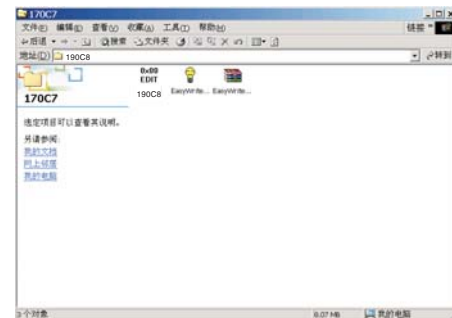

Fig. 5
- Step 5 :Copy the hexcode 190C8 to C:\190C8 as shown in Fig. 5 .